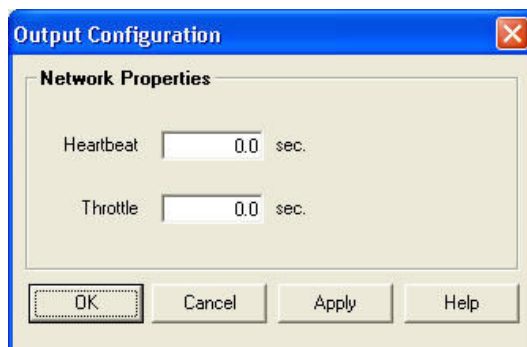

Figure 20: Network Output Configuration Window
20. Select nvoCtrlOut1 from the ON/OFF Output drop-down menu. the Output Configuration window opens (Figure 20).